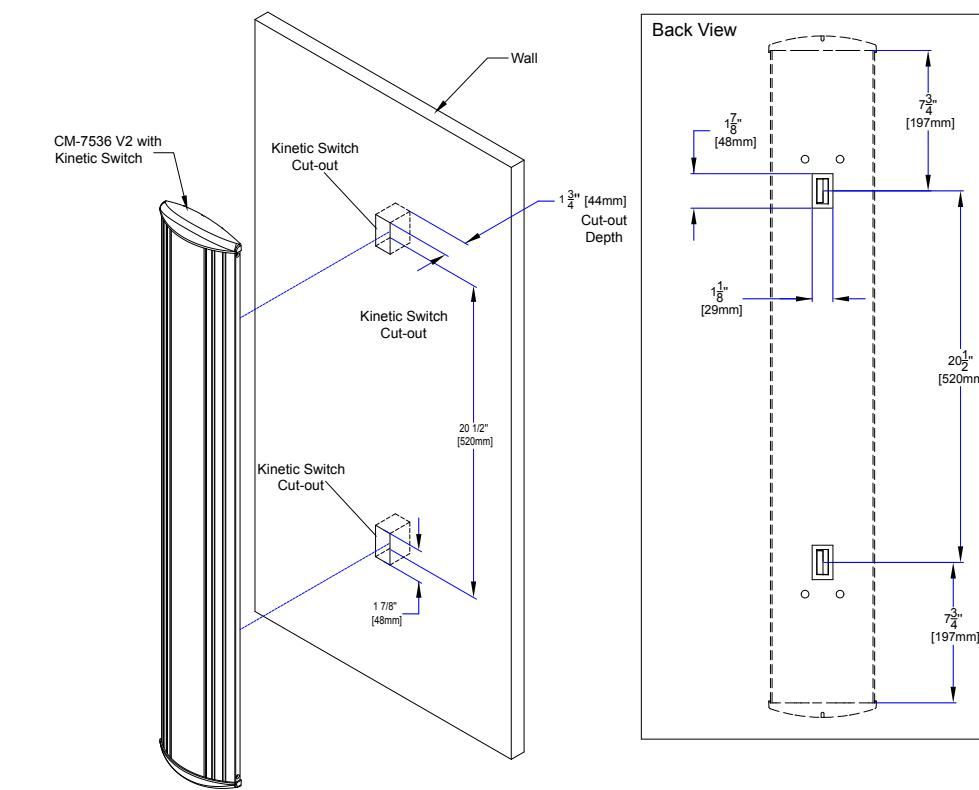

Figure 4.5 Kinetic Wall Mounting
c. **If using Kinetic RF:** The CM-7536K uses 2 Kinetic RF switches installed near the top and the bottom of the actuator. When pairing this switch with a Kinetic receiver, you must pair both the top and the bottom switches. The pairing of Camden Kinetic transmitters is detailed in the CM-RX90v2 installation manual. (See Figure 4.5)